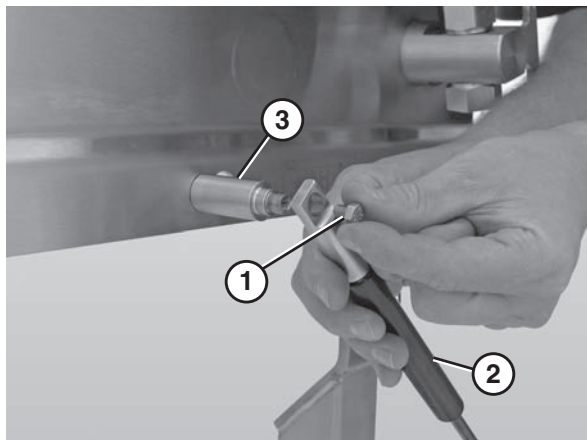

Figure 92
- Remove the hex bolt (Figure 92, item 1) that connects the gas spring (Figure 92, item 2) to the gas spring standoff post (Figure 92, item 3).
- Remove the inside hex bolt that connects the standoff post (Figure 92, item 3) to the frame.